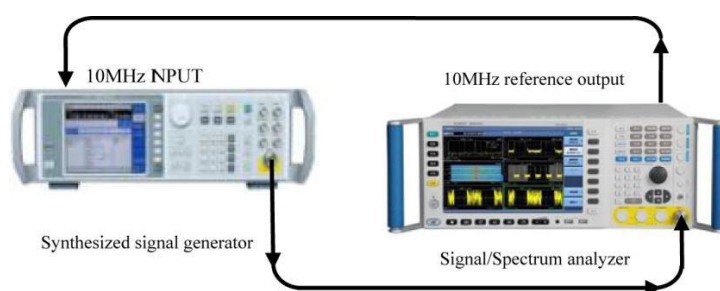

Fig. 8.4 Schematic diagram of marker count test
- 1) Connect the test equipment according to Fig. 8.4 with the 10MHz output interface of the analyzer connected to the 10MHz input interface of the synthesized signal generator and the RF output of the synthesized signal generator connected to the signal input interface of the analyzer.